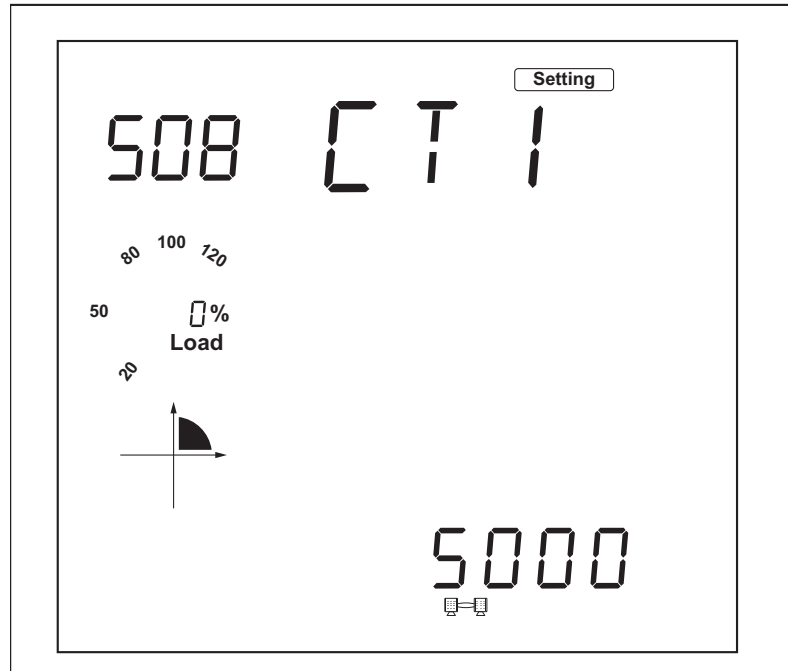

Figure 12: S08: CT1 screen
11. Press **P** to get to screen S08: CT1 (Figure 12 on page 12).